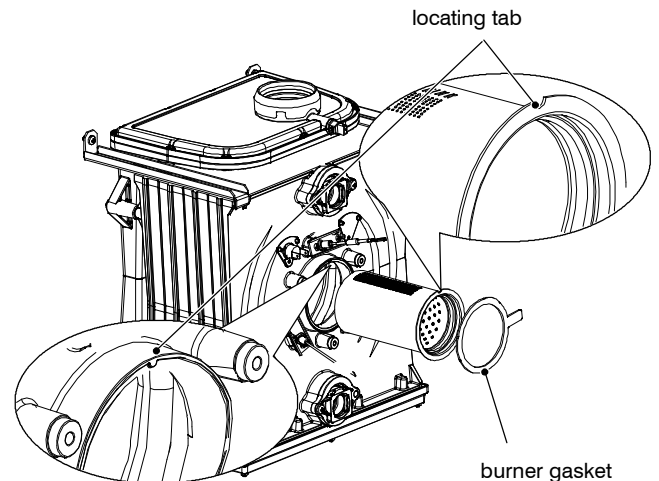

Fig. 18.3
- 4 Assemble the burner carrying out the removal operation in reverse order. Ensure the burner is correctly located by lining up the locating tab (Fig. 18.3).